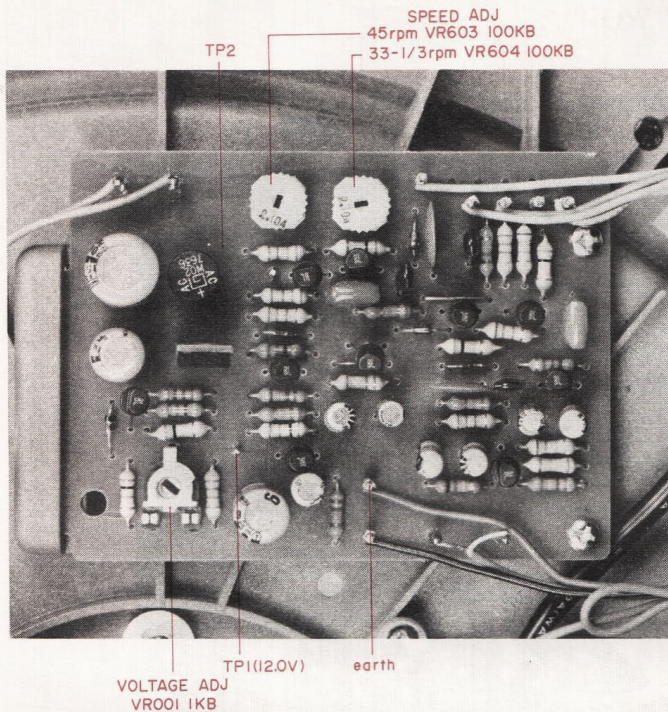

Fig. 3 Control P.C Board
ADJUSTMENT (Refer to Fig. 3)
(Refer to Figs. 3 and 4)
- 2) Observe Row 1 revolutions of Strobe markings. Adjust VR604 100 k Ω (Fig. 3) until Row 1 Strobe markings appear to come to a stand-still.
- 4) Observe Row 2 revolutions of Strobe markings. Adjust VR603 100 k Ω (Fig. 3) until Row 2 Strobe markings appear to come to a stand-still.
- 2) Observe Row 3 revolutions of Strobe markings. Adjust VR604 100 k Ω (Fig. 3) until Row 3 Strobe markings appear to come to a stand-still.
- 4) Observe Row 4 revolutions of Strobe markings. Adjust VR603 100 k Ω (Fig. 3) until Row 4 Strobe markings appear to come to a stand-still.
- 2) Connect frequency counter to TP-2 and earth (Fig. 3). Adjust semi-fixed resistor VR604 100 k Ω for the frequency counter to read 83.333 Hz.
- 4) Connect frequency counter as in 2) and adjust semi-fixed resistor VR603 100 k Ω (Fig. 3) for the frequency counter to read 112.5 Hz.